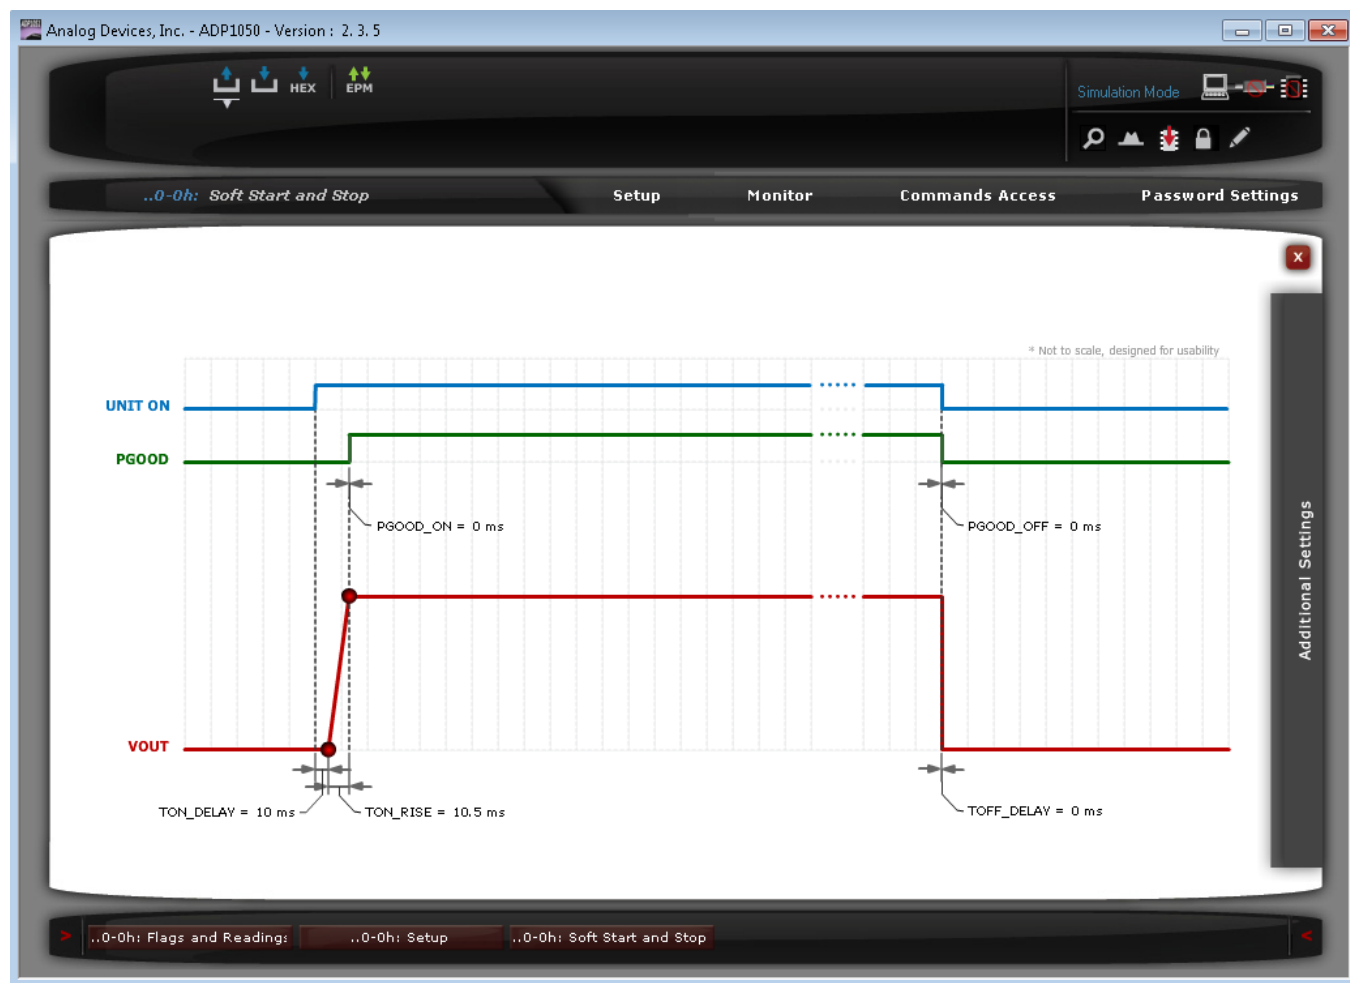
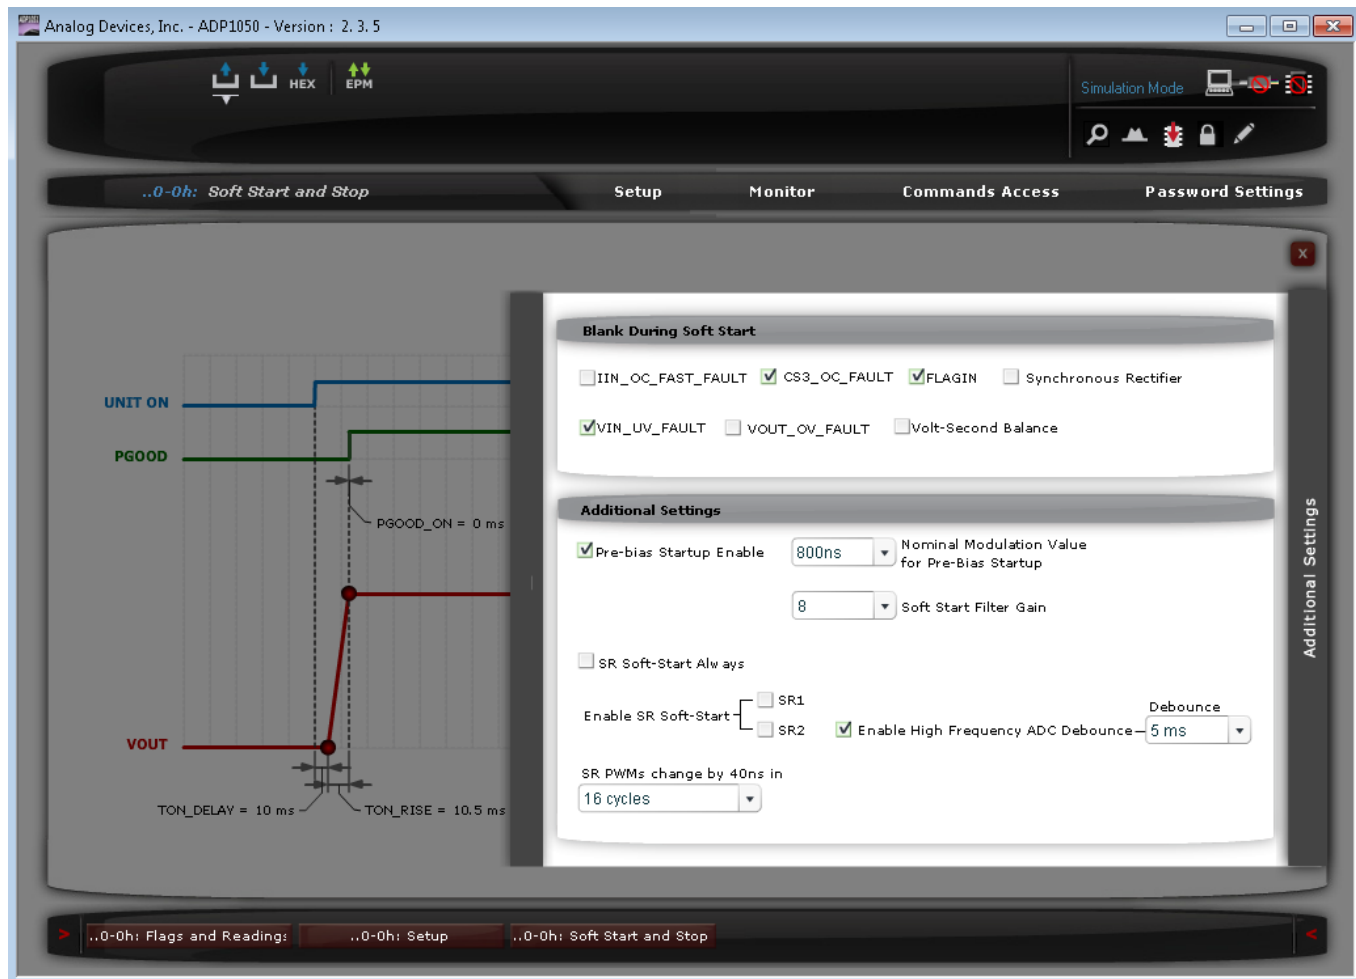

Figure 13. Soft Start and Stop Settings Window
Figure 14. Additional Soft Start Settings Window
The turn-on delay time, turn-on rise time, and turn-off delay time can be programmed in the **Soft Start and Stop Settings** window (see Figure 13), accessed via the **Setup** tab. The **Additional Soft Start Settings** window is shown in Figure 14.
1. In the **Additional Soft Start Settings** window (see Figure 14), enable the prebias start-up function and program the appropriate nominal modulation value for prebias startup.
- Program a different turn-on rise time in combination with a different turn-on delay time (see Figure 13).
- Select different flags to blank during the soft start ramp (see Figure 14).
- Choose different soft start gains to optimize the soft start ramp (see Figure 14).
- Enable the synchronous rectifier soft start and select a different synchronous rectifier soft start speed (see Figure 14) to prevent a glitch at the output voltage ramp.